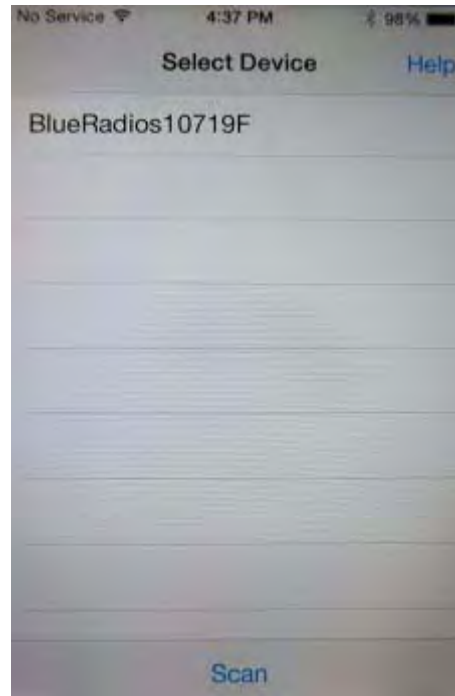

Figure 22. Select Device Screen
4. The **Select Device** screen appears, which displays all Bluetooth devices available, as shown in Figure 22.